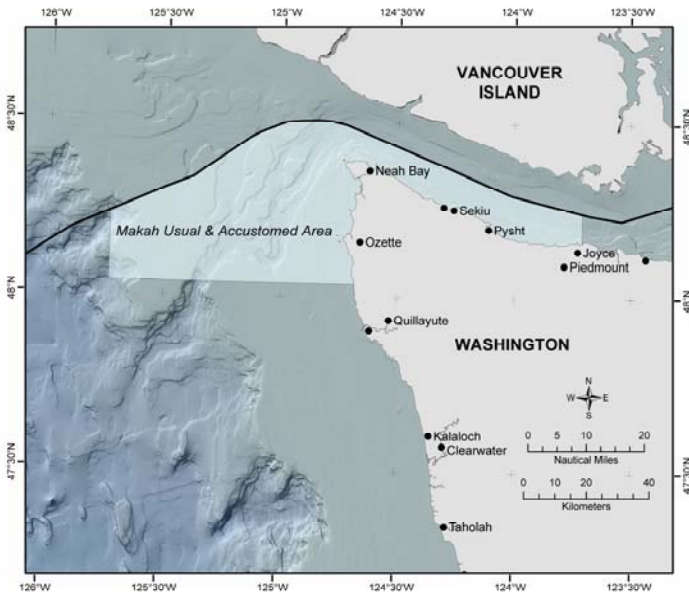

Figure 1 Makah Usual & Accustomed Area
The hake tribal fishery is exclusive to the Makah tribe from Neah Bay, Washington. Each year the Makah are granted a variable percentage of the optimum yield (OY), which is 35,000 mt for 2008. All hake fishing for the tribe takes place in the Makah Usual and Accustomed Area (MUAA) located in Washington waters, near Neah Bay. Figure 1 shows the boundaries for the MUAA.